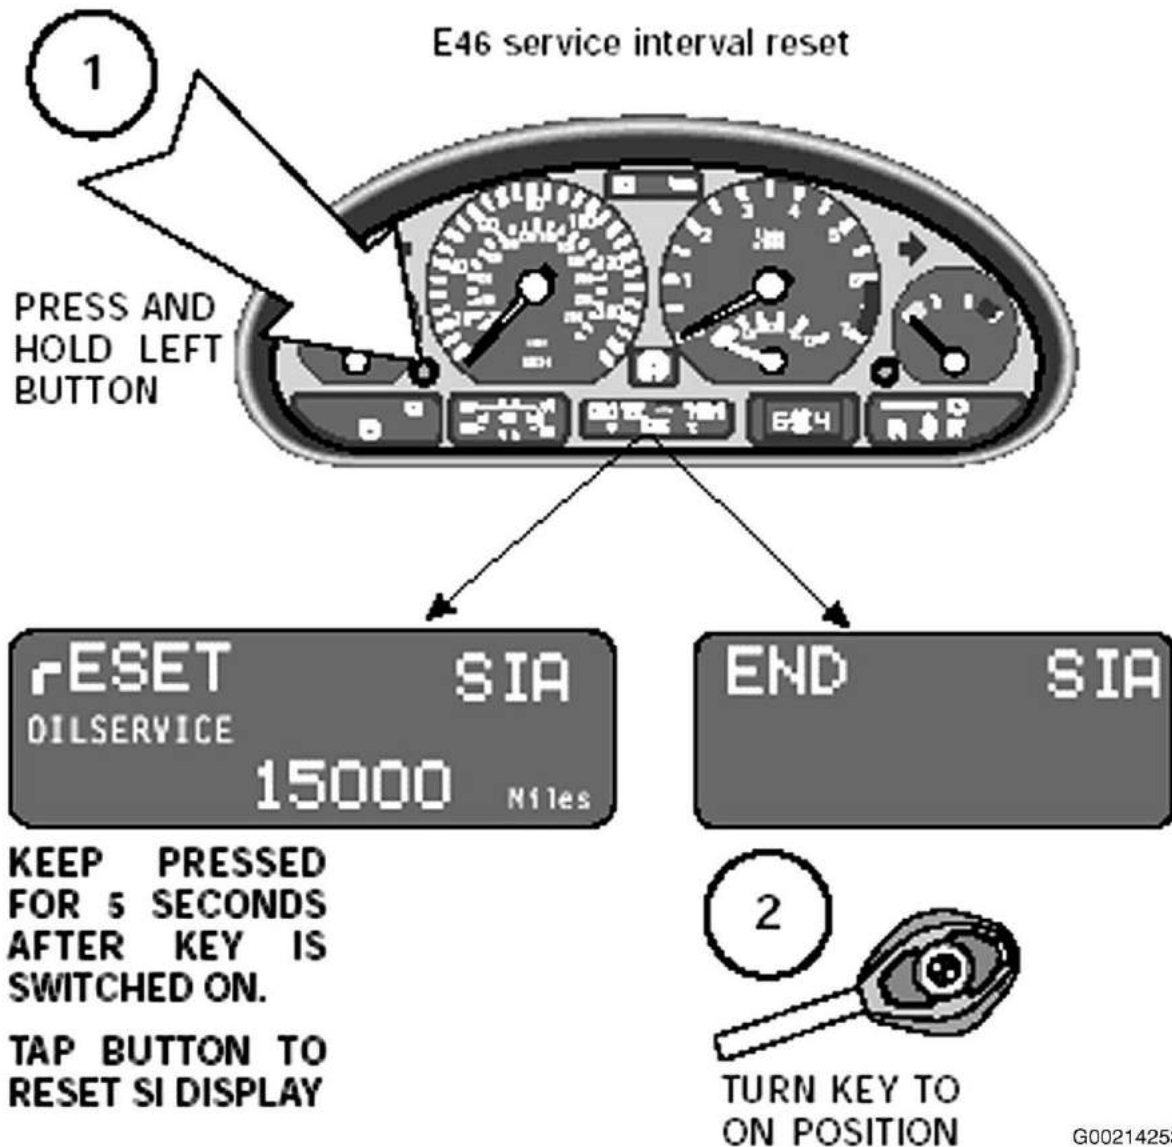
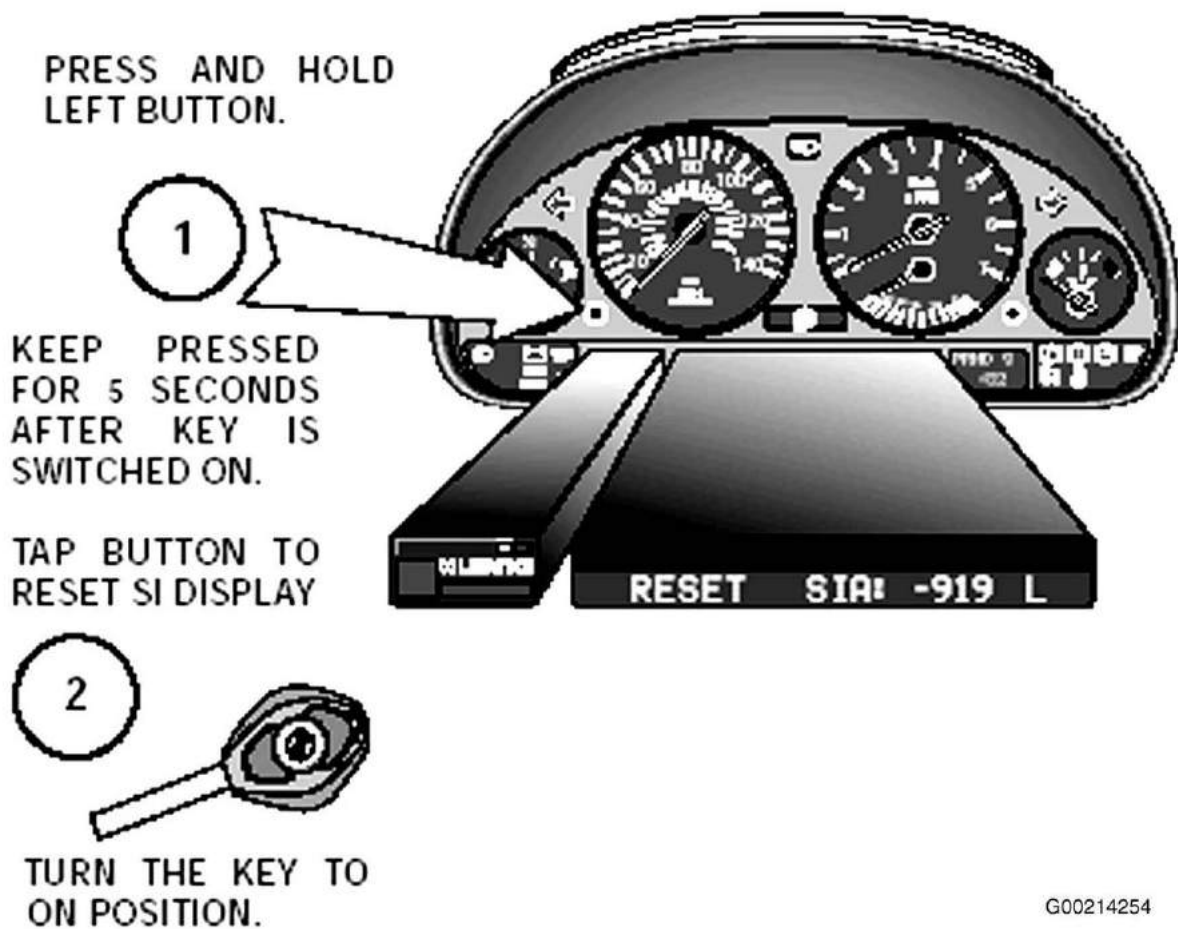

Fig. 3: Resetting Service Interval Light (E46)
Fig. 4: Resetting Service Interval Light (E39)
4. Release reset button and press it again until "RESET" begins to flash in the display. See Fig. 3 and Fig. 4.